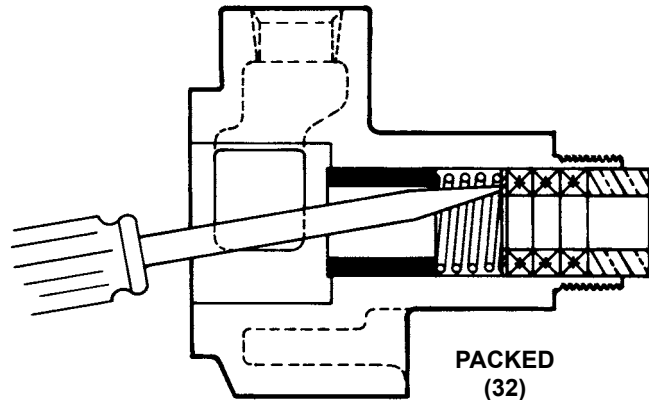

FIGURE 3
5. The pump is now ready for removal of the packing or mechanical seal. **Refer to Figure 3 or 4** for example. It is recommended a new mechanical seal or packing rings be used every time a pump is completely disassembled.